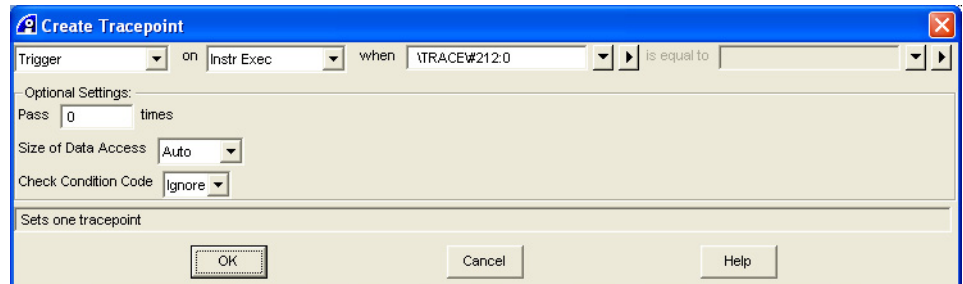

Figure 7-5 Create Tracepoint dialog box
2. Select **Create Tracepoint...** from the context menu to open the Create Tracepoint dialog box. Figure 7-5 shows an example: